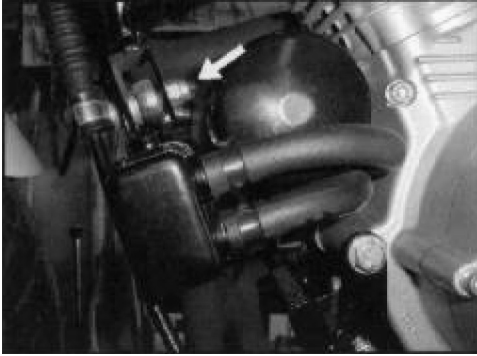

Figure 1
1. Remove stock 3/8" x 1-1/2" bolt and nut from frame Heim joint. Do not discard nut (figure 1).